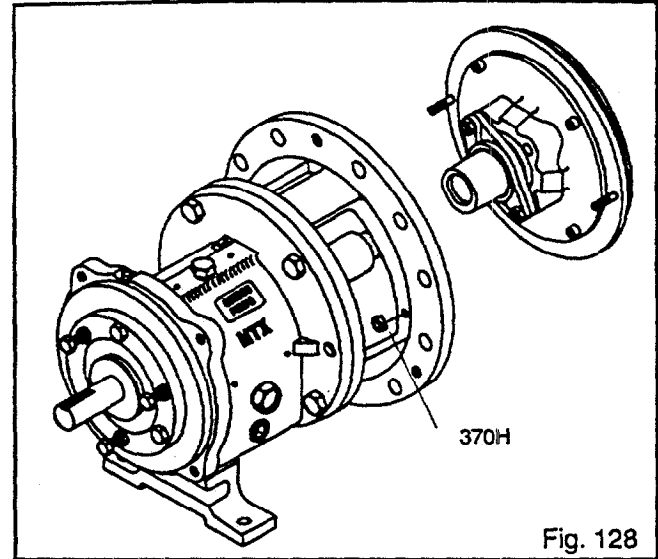

Fig. 128
8. Install dynamic seal assembly. Install nuts (370H) (Fig. 128).